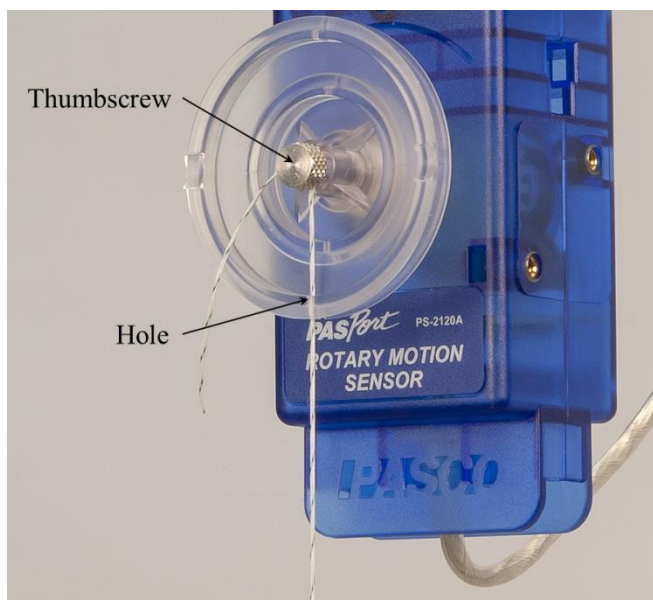

Figure 3: Attaching the string to the Rotary Motion Sensor
2. Cut a length of string about 2.0 m long and thread one end of the string through one hole in the large diameter step of the Rotary Motion Sensor pulley as shown in Figure 3. Loosen the thumbscrew at the center of the pulley, and wrap the end of the string around the threads just behind the thumbscrew head, as shown in Figure 3. Tighten the thumbscrew to secure the string.